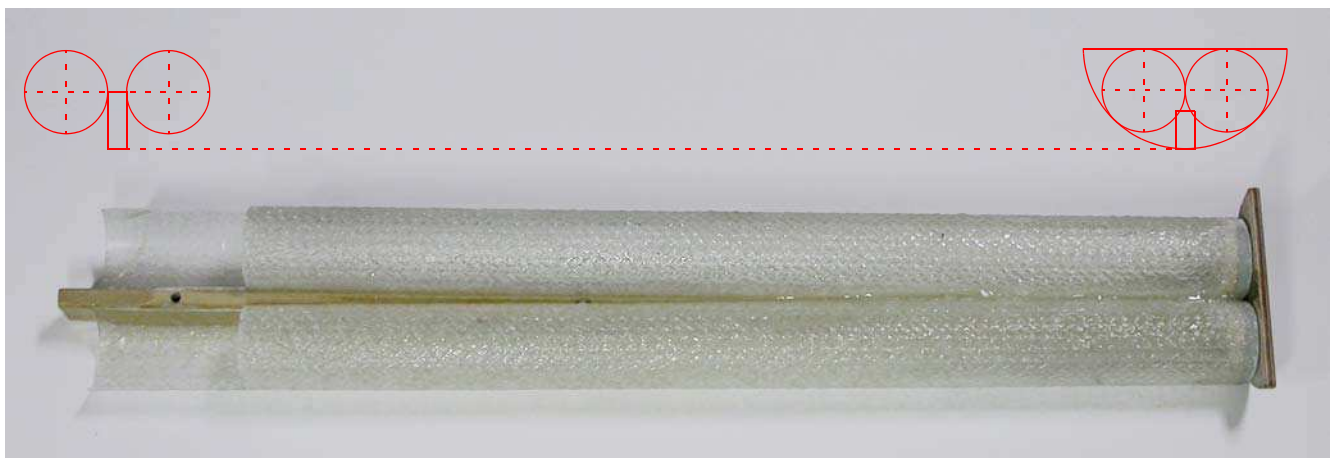

Fig.78: Ballast hold tubes in position.
- position the ballast hold tubes on the structure as shown in figure 78 (few sips of cyano are enough to hold temporary the group in position);